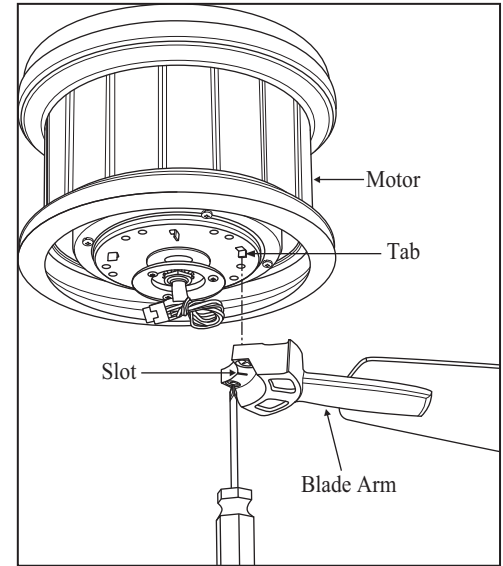

Figure 9
3. Fasten the blade assemblies to the motor by lining up the slots of the blade arms with the tabs on the motor, then tighten the two screws and washers already installed in the blade arms (Fig. 9).